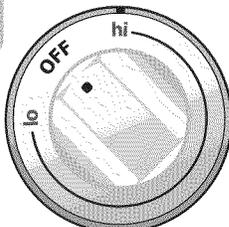

Fig. 8
3. Push in and turn the surface control knob in either direction to the desired setting using the ESEC digital display window for the desired setting (Fig. 8). Turn (do not push) the knob to adjust the